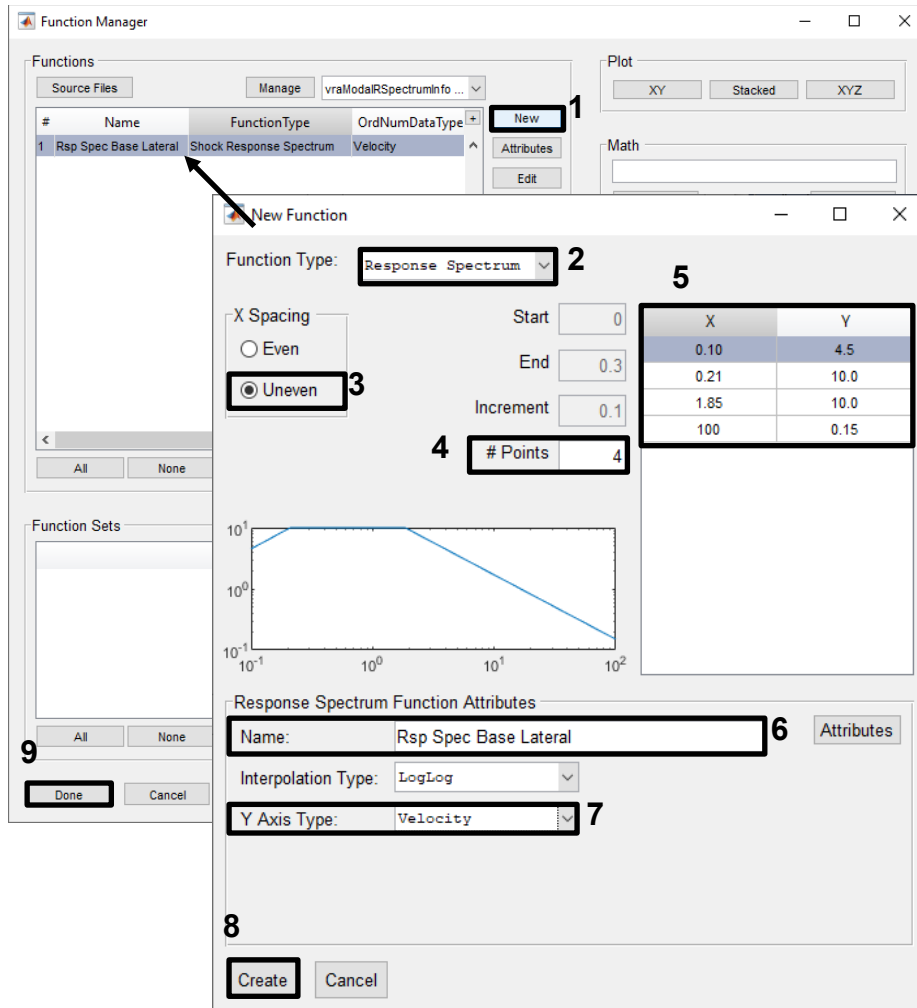
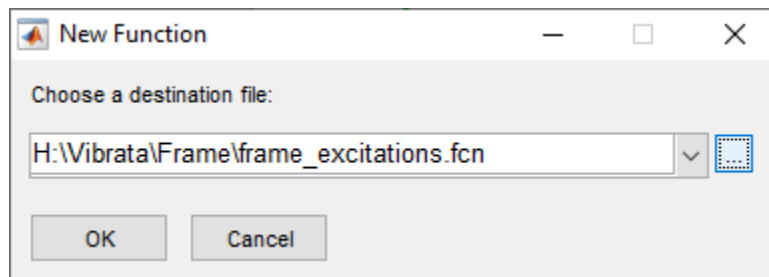

Figure 4-78. Define a Response Spectrum velocity function.
Figure 4-79. Store the new function in the frame excitations file.
5. In the Function Manager, use the Source Files button to open the "frame\_excitations.fcn" file from section 4.2.3. (If you have not created that file yet, you will do so here when you finish defining the response spectrum function.) Define a new velocity response spectrum function as shown in Figure 4-78. Click the **Create** button and store the function to "frame\_excitations.fcn" (Figure 4-79). Click **Done** on the Function Manager main dialog to return to the Event Manager.